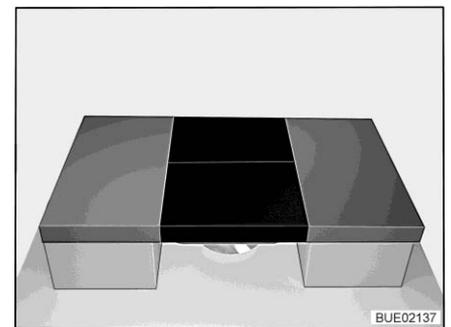

Fig. 167 After conversion
- Place two additional cushions on the table (see Fig. 167).